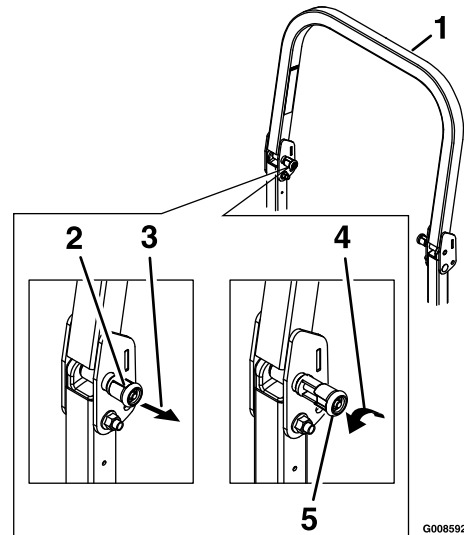

Figure 12
1. The knob must be completely latched with the tabs interlocking as shown in Figure 12 to lock the roll bar in the raised, operate position.